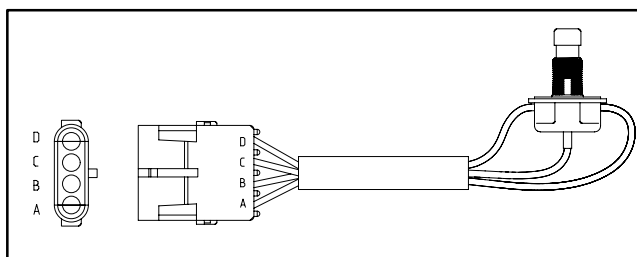

Figure 29
2. The switch, switch harness, and connector are shown in Figure 29. Depress the switch until continuity exists between connector terminals A and C. At that switch position, continuity should also exist between terminals B and D.